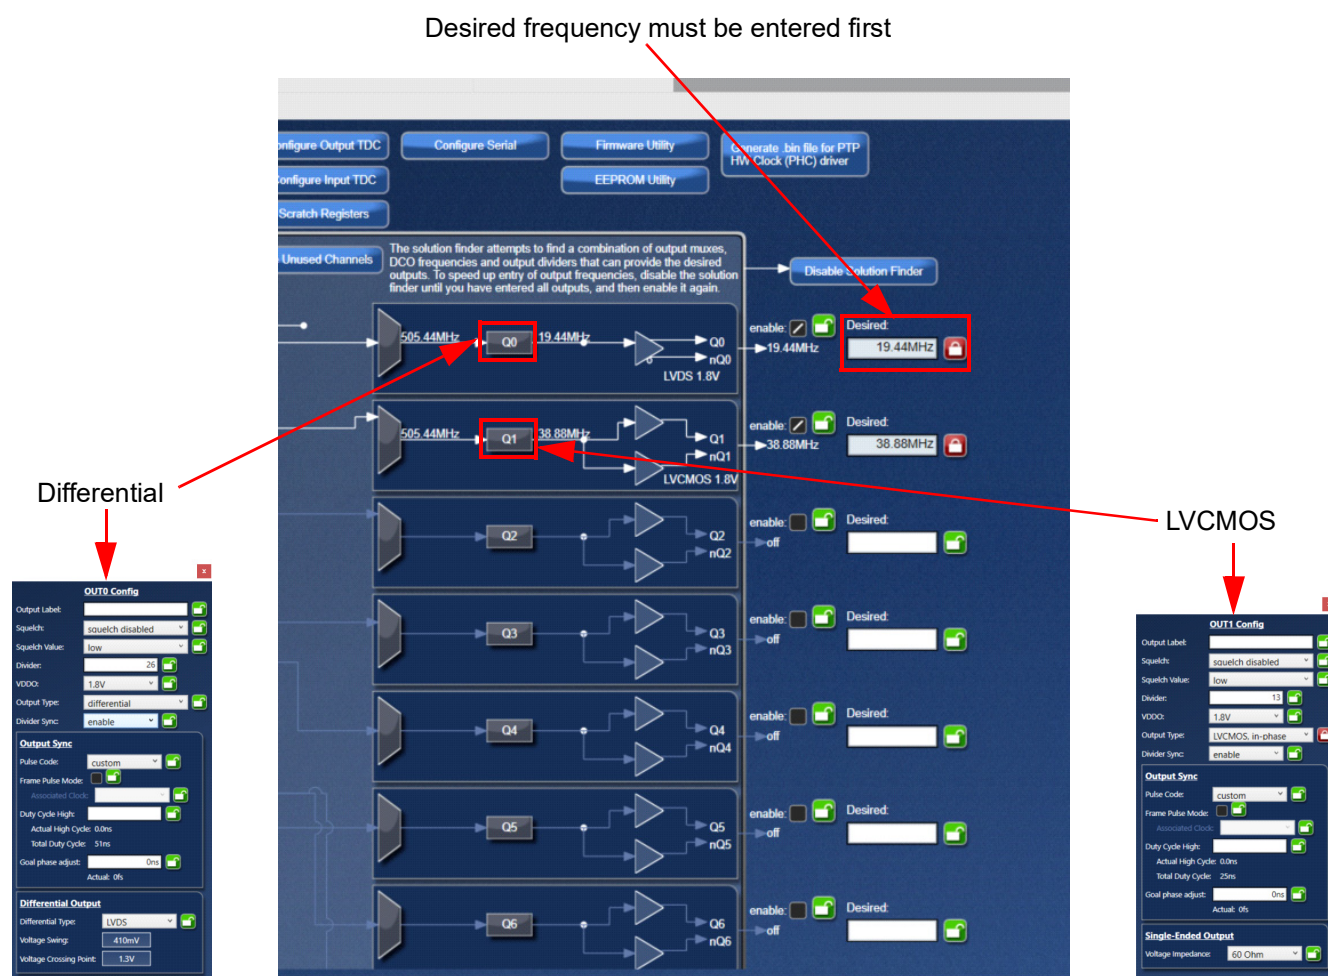

Figure 14. Output Stages Window
- Up to 8 output stages, one stage for each channel (see Figure 14)